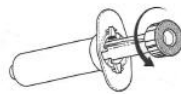

Figure 2
4. Pour désactiver l'aspiration (Figure 2):
- To disconnect vacuum pressure (Figure 2):